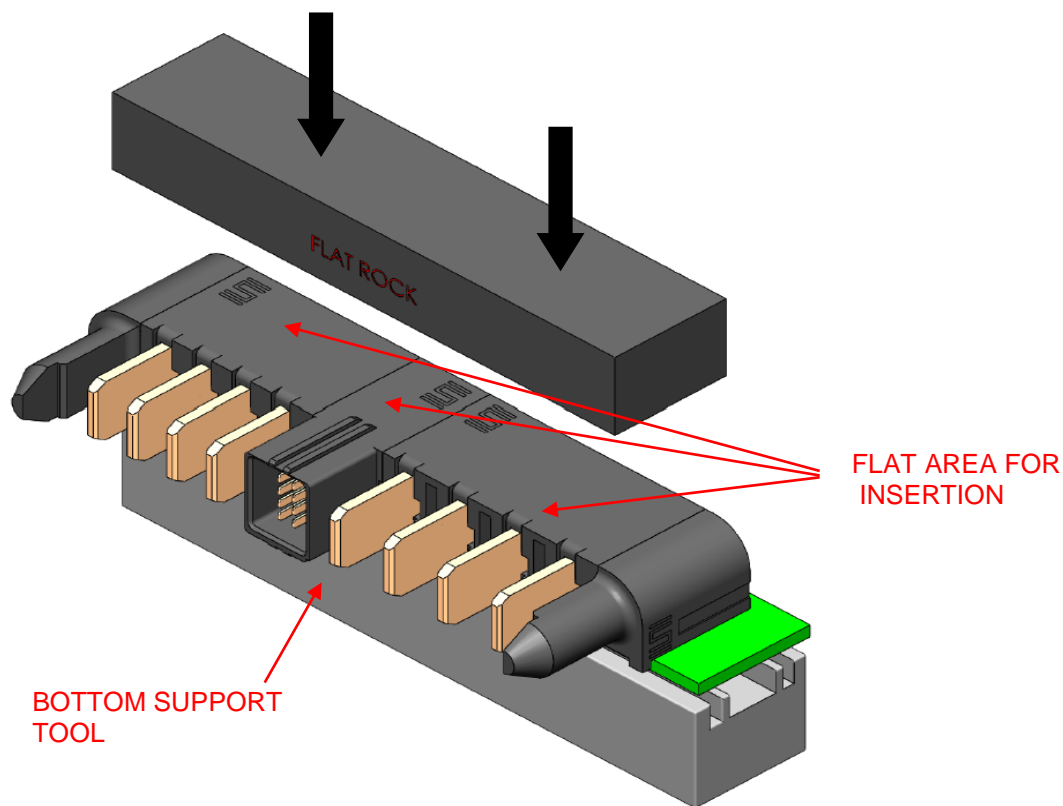

Figure 2: Flat Rock & Bottom Support Tool Application to Seat Connector
- Apply and uniformly load the flat rock tool as shown in figure 2